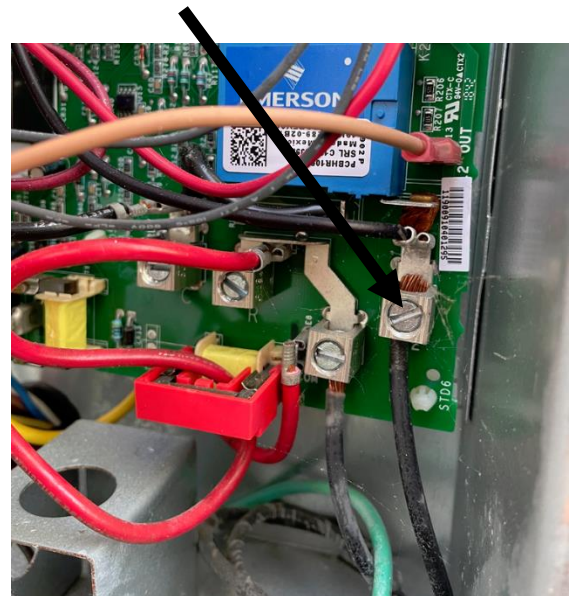

Figure 3
Step 4: Temporarily connect the black EasyStart wire to the screw terminal shown by the black arrow in figure 3. Use a piece of tape or wire nut to insulate the EasyStart brown and orange wires from touching anything else. Set the thermostat for off then turn on power.